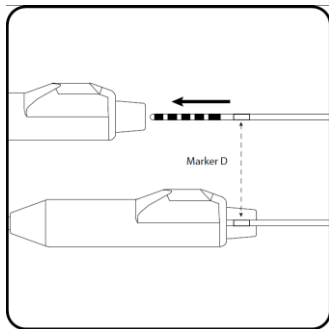

Figure 18: Insert lead fully into the Percutaneous extension connector block.
4. Insert the lead into the percutaneous extension connector block until fully seated and the lead cannot be inserted further. Marker D on the lead should be inside the percutaneous extension strain relief (**Figure 18**). The retention sleeve on the tined lead should be positioned under the percutaneous extension setscrew.